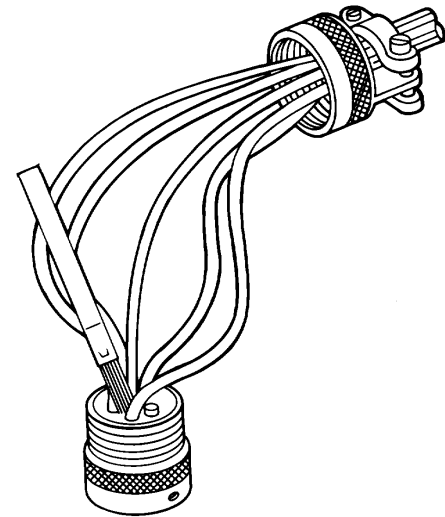

Figure 15. Connector Cleaning
c. Remove oil and/or grease contamination from wire sealing grommet, internal backshell area, and adjacent wires by applying cleaning compound to connector. Loosen and remove contaminants using acid swabbing brush. Clean quickly, draining compound from connector. Wipe residue with cleaning cloth. Allow to dry (Figure 15). Refer to WP 026 00 in this manual and NA 01-1A-509-3 under treatment of specific areas (multi-pin connector cleaning and preservation) for additional guidance.